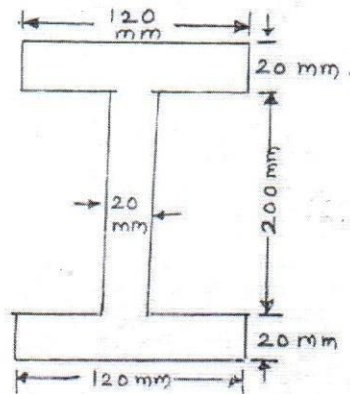

Fig. 1
- c. State any five (5) assumptions made in the theory of simple bending. (5 marks)
- e. The section shown in Fig. 1 below is that of a cantilever 5 m long carrying a uniform load of 4 kN/m, which is applied perpendicular to the x-x axis. Calculate: